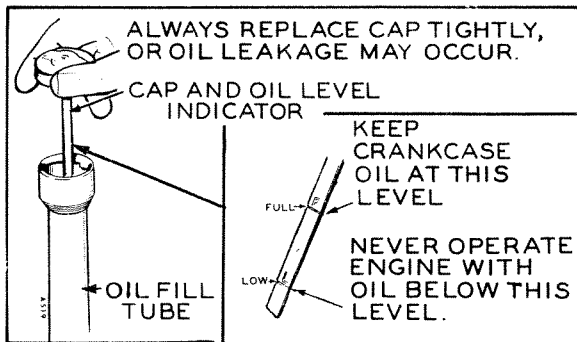

Fig. 13 Crankcase Oil Level
CRANKCASE OIL. - Table I gives the oil capacity. Be sure the plant is sitting level when filling. Fill to "F" (full) mark on the indicator (Fig. 13). Use an oil with the API designation DS that has passed the Series 3 Test and at least Sequence I of the Automotive Manufacturer's MS Sequence Tests. (DM oil which has passed the Automotive Manufacturer's MS Sequence Tests may also be used when ambient temperatures are lower than 30°F.) To reduce oil consumption to a normal level in the shortest time on a new or rebuilt "J" series diesel engine, use DG or DM oil (passing the MS Sequence Tests) for the first fill only (50 to 100-hours), then change to the recommended oil. Always reinstall indicator **AIR TIGHT**.
C. - OIL LEVEL. Fill to F (full) mark on indicator, figure 13.